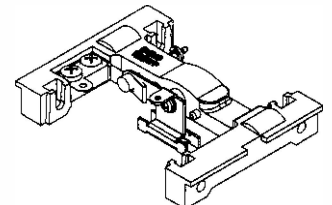

Fig.16
⑪ Push the safety pin slowly, then attach the locking collar from opposite side. The collar is locked with the sound of a click when it is set properly (refer to fig.16).